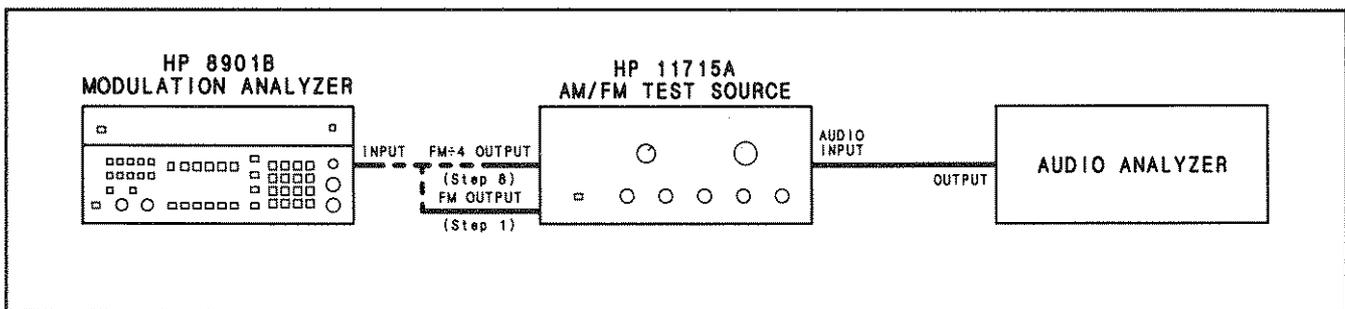

Figure 5-5. FM Distortion and Incidental AM — 1.5 MHz Adjustment IF Test Setup
1. Connect the equipment as shown in Figure 5-5. (The AM/FM test source output can be connected either to a sensor module or directly to the Modulation Analyzer's INPUT.)